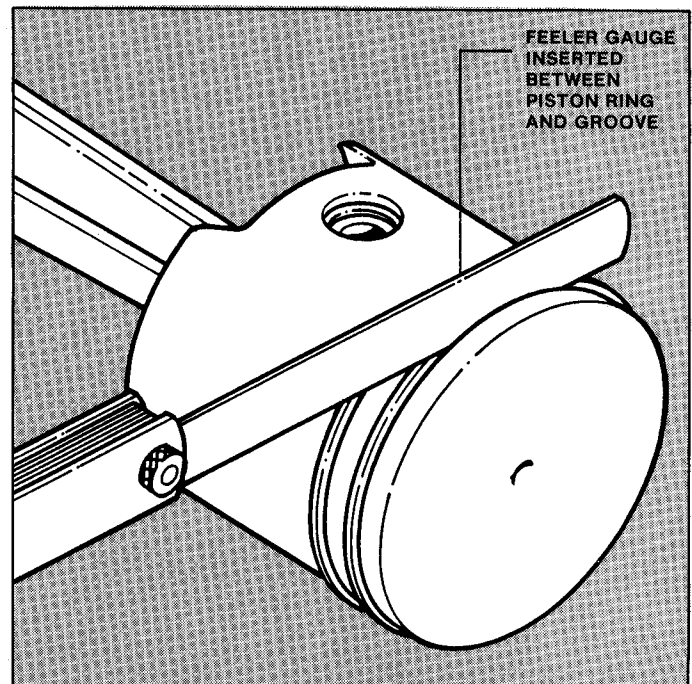

FIGURE 2.20
1. Measure clearances between piston rings and grooves with feeler gauge. See Figure 2.20.